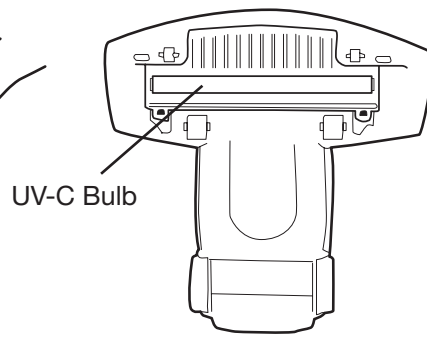

Figure 7
2. Using a soft lint-free cloth, carefully remove any dust from the protective cover and the UV-C bulb. (See Figure 7.)